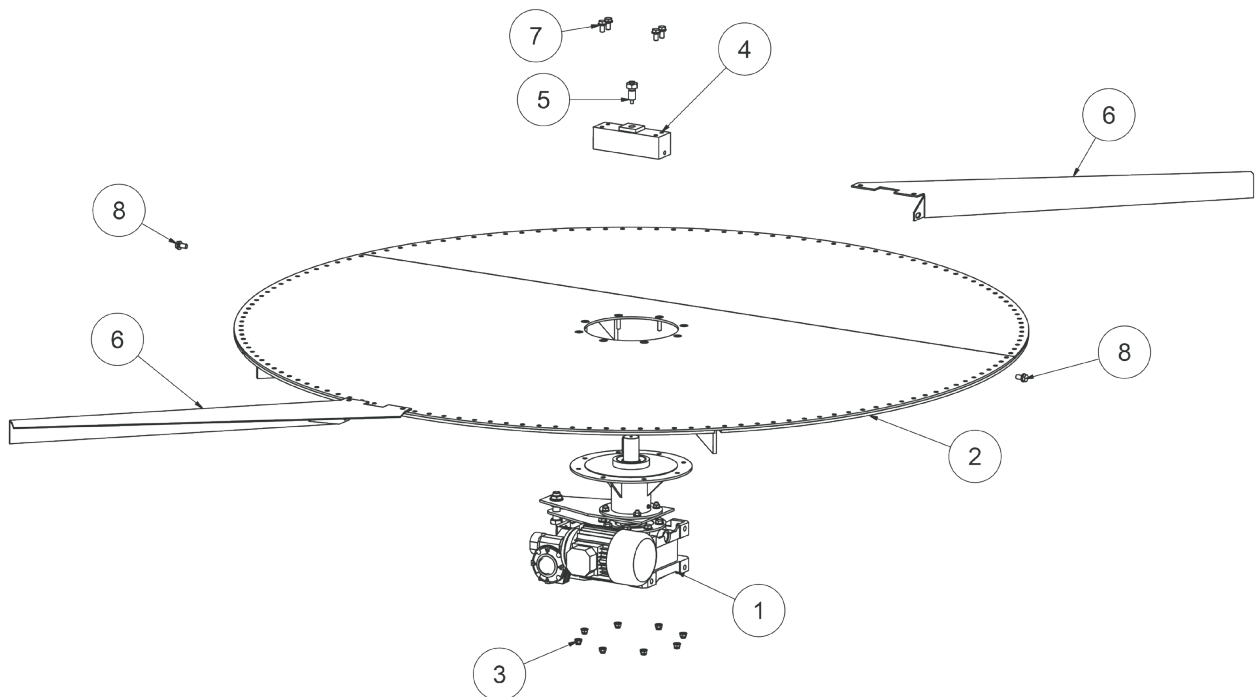

Fig. 05
See Fig. 05. Fit the motor/hub unit (1) to the base plate (2) and secure with nuts and bolts (3). Fit the hub part (4) onto the motor axle (1). (Do not forget that the motor joint lock pin uses the tongue and groove principle). Adjust the distance between the base plate (2) and the hub part (4) using the height-adjusting screws (5).